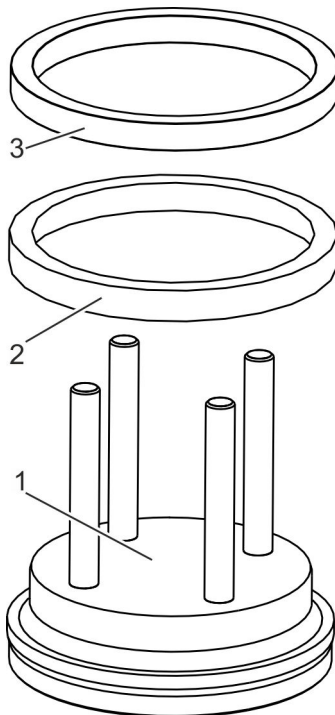

Fig. 11: Fitting the cover with a new gasket ring
13. ➤ Remove the support ring (Fig. 11/3) from the cover (Fig. 11/1).
14. ➤ Remove the gasket ring (Fig. 11/2) from the cover.
17. ➤ Place the new gasket ring (Fig. 11/2) on the cover (Fig. 11/1).
18. ➤ If required, place a new support ring (Fig. 11/2) on the gasket ring (Fig. 11/1).